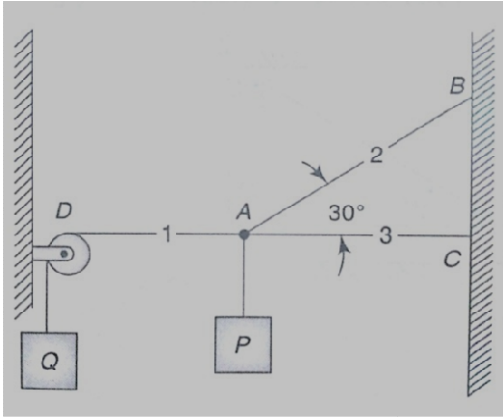

Figure 1.16
23. In Figure 1.16, weights P and Q are suspended in a vertical plane by strings 1, 2, 3, arranged as shown. Find the tension induced in each string if $P = 2225 \text{ N}$ and $Q = 4450 \text{ N}$.